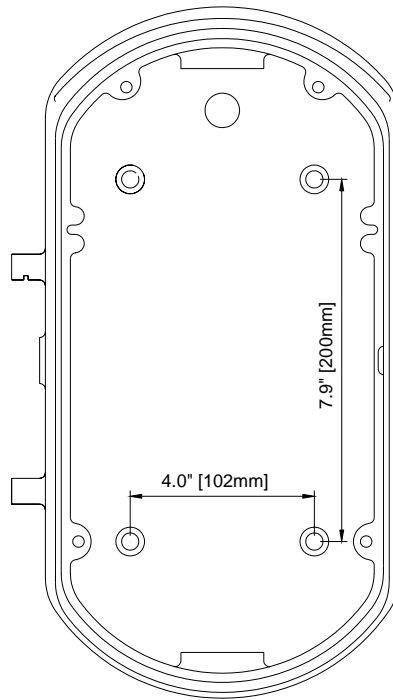

Figure 3 - Mounting
*See: Figure 3 - Mounting*
*See: Figure 3 - Mounting.*